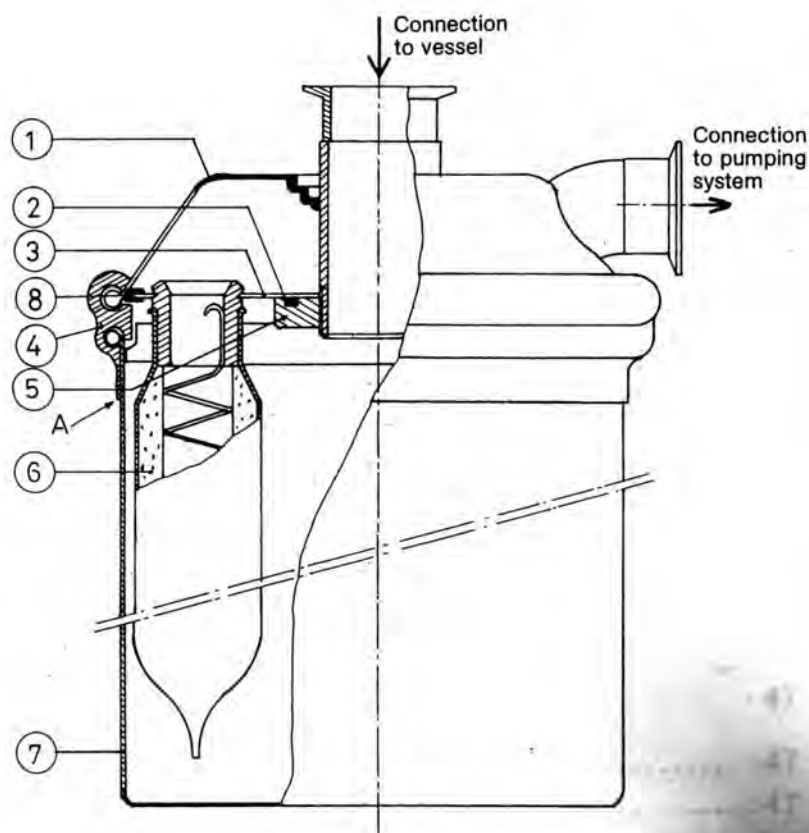

Figure 2
b) Dismantling of dust filter (see figure 2)